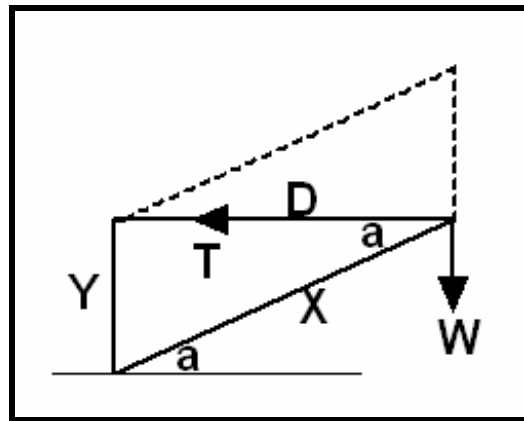

Figure 1
*The basic stabilizer arm consists of 4 elements arranged in the form of a parallelogram with a spring loaded diagonal element to support the weight of the camera and sled. Figure 1 shows a schematic of a stabilizer arm up at an angle ( $a$ ) with horizontal elements ( $X$ ), vertical elements ( $Y$ ), a diagonal ( $D$ ) and supported weight ( $W$ ) attached at the end. Two of the arm elements that are shown with dashed lines do not contribute to the support of  $W$ , hence, they are irrelevant to the analysis and are ignored.*
*Static devices, devices that are not moving, can be analyzed by summing the moments, or torques, produced by all of the forces acting on the object and equating them to zero. In Figure 1, force T acts to the left pulling the arm in the counter clockwise direction. This force produces a torque, or moment, that is mathematically equal to T times Y. W is shown pulling down on the arm which produces a clockwise torque and is mathematically equal to W times D. Since the arm is not moving, these two opposing torques must be equal. In equation form this is:*
*Equation (1) was derived using Figure 1 which is drawn with the diagonal horizontal; however, it is equally true for any angle of the arm. Proof of this requires the use of slightly more complex math using trigonometry and is provided in Appendix B.*